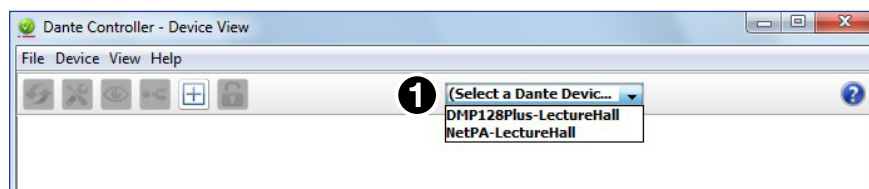

Figure 18. Device Drop-down Menu on the Device View Screen
2. From the **Select a Dante Device** drop-down list, select the name of your NetPA AT (see figure 18, ❶).